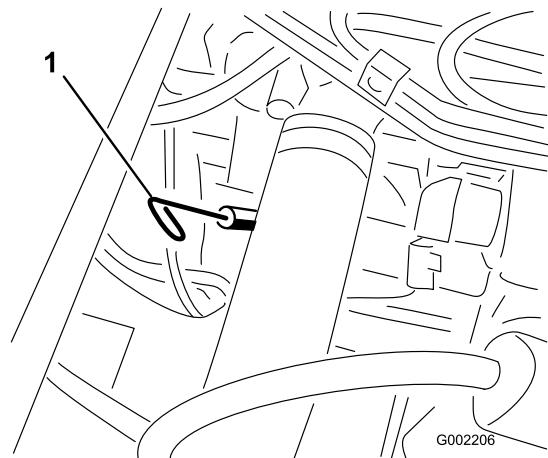

Figure 18
2. Remove the dipstick, located under the passenger seat, and wipe it with a clean rag (Figure 18).